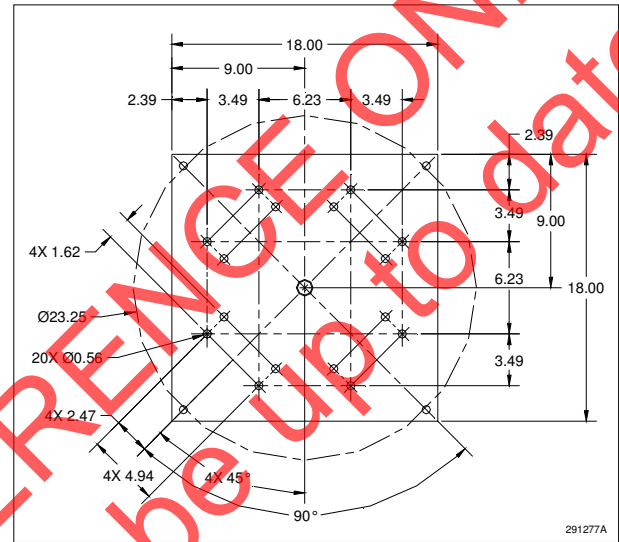

Figure 3-6. Siren Base Plate
3. Anchor the siren to the mounting surface with a user supplied 1/2" lag bolts or nuts and bolts, as appropriate through the mounting holes (one in each corner) in the siren base plate (see Figure 3-6). If the siren is mounted directly on a roof, (without a platform or weight distribution mat) be sure to install user supplied waterproof joints at the points where the mounting bolts pass through the roof so that water does not enter the building.